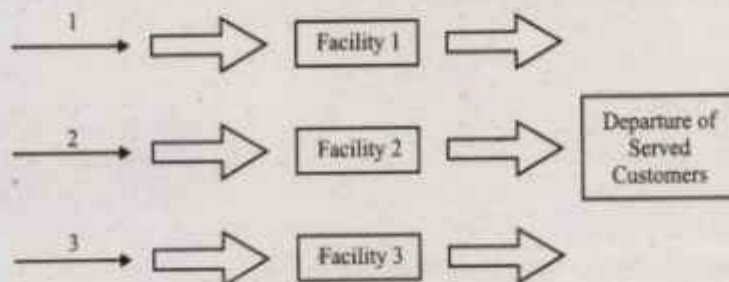

Fig. 4.8
- (d) *Multiple parallel facilities with multiple queue* : Here there are a number of queues and separate facility to service each queue. Booking of tickets at railway stations, bus stands, etc., is a good example of this. This is shown in Fig. 4.8.